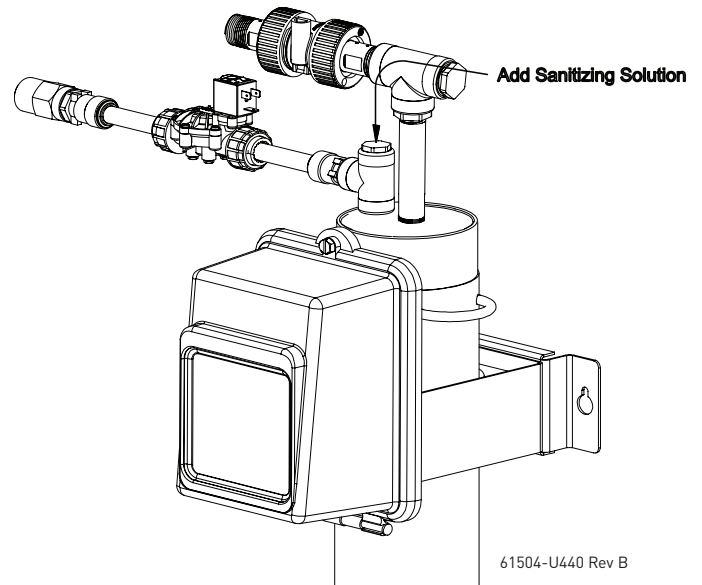

Figure 9 Adding Sanitizing Solution
7. Through the sanitizing port fill the FreshPoint™ housing with a solution containing chlorine at 100 mg/l (1-½ teaspoons of unscented bleach in 1 gallon of clean water). See Figure 9 Adding Sanitizing Solution.